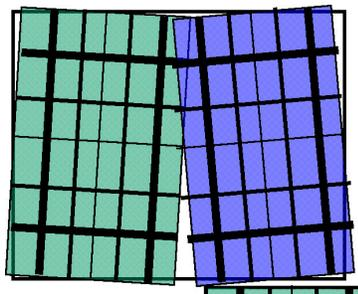

Figure 14a
Before beginning this step, it is important to realize that the images will rotate as they are moved up and down. **Figures 14a-e** show how this rotation takes place.
3. It is important to remember that when you move the images up and down using the U/D knobs, the images move up and down on an arc, as discussed previously (**Figures 14a-e**). Therefore, if you do not position the two images in their proper up/down positions, they will be rotated relative to each other. There is an "ideal" up/down position in which there will be no rotation between the images.